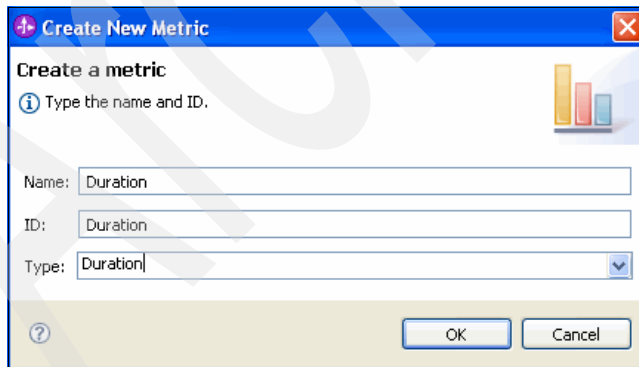

Figure 10-60 Create New Metric window
- a. In the Create New Metric window (Figure 10-60), for Name, type Duration, and for Type, select **Duration**. Click **OK**.